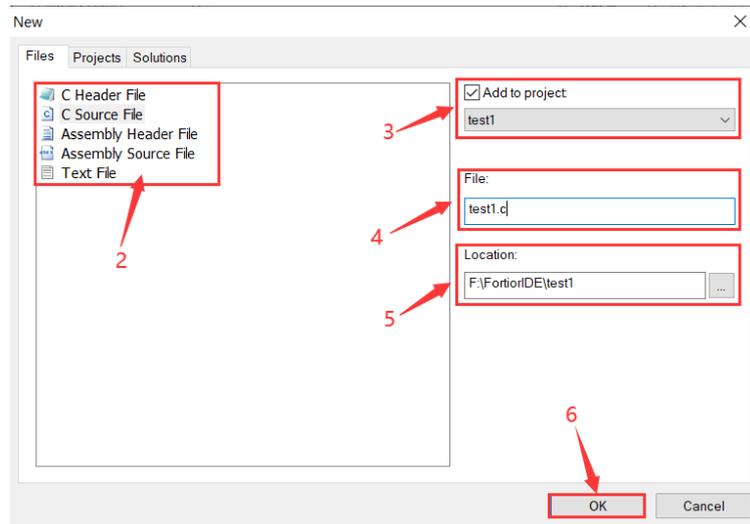

Figure 2-11
Step 2: Select the file type, including "C Header File", "C Source File", "Assembly Header File", "Assembly Source File" and "Text File", as shown in Figure 2-11.
Step 4: Enter the file name, as shown in Figure 2-11. When "C Source File" is selected, you can enter the file name as "test1.c" or "test1". If you enter "test1", the system automatically completes the file suffix according to the selected file type;